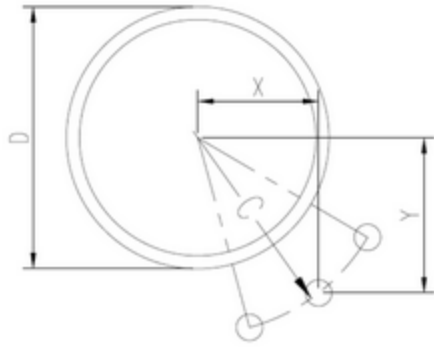

Figure 1.
- 1. Locate pole centre.** Firstly measure the size of the pulley remembering to include lagging and belt thickness. Once the 'D' dimension is known, use the table on the right to determine the X and Y dimensions. **NOTE:** Use the 'D' dimension that is closest to what you have measured. Using the X and Y dimension, mark where the centre of the pole will be located as shown in the above figure 1. Note: If the location is obstructed, use the 'C' dimension to find a position that is open.